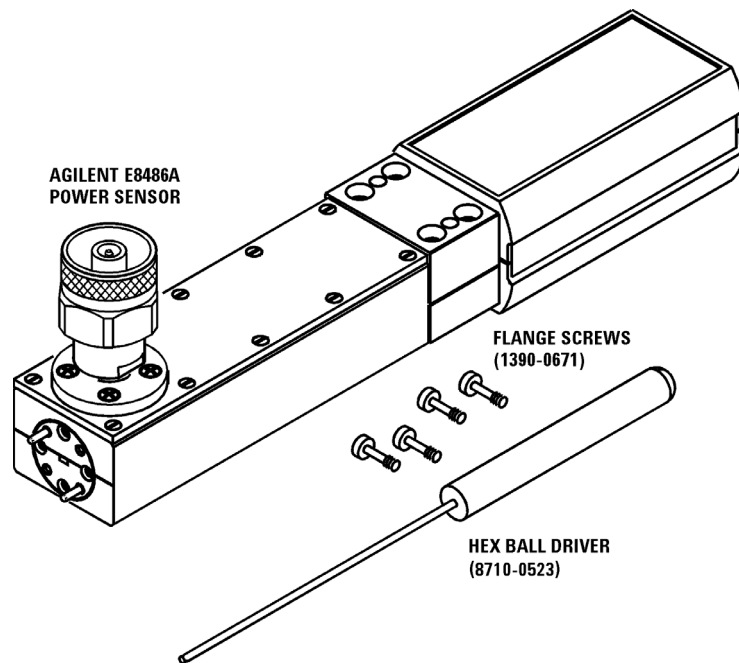

Figure 1-2 Agilent E8486A Power Sensor with Accessories and Hardware
- Figure 1-2 Agilent E8486A E-band Power Sensor with Accessories and Hardware 5
Refer to Figure 1-2 for a visual check of the accessories that should be included with your power sensor.